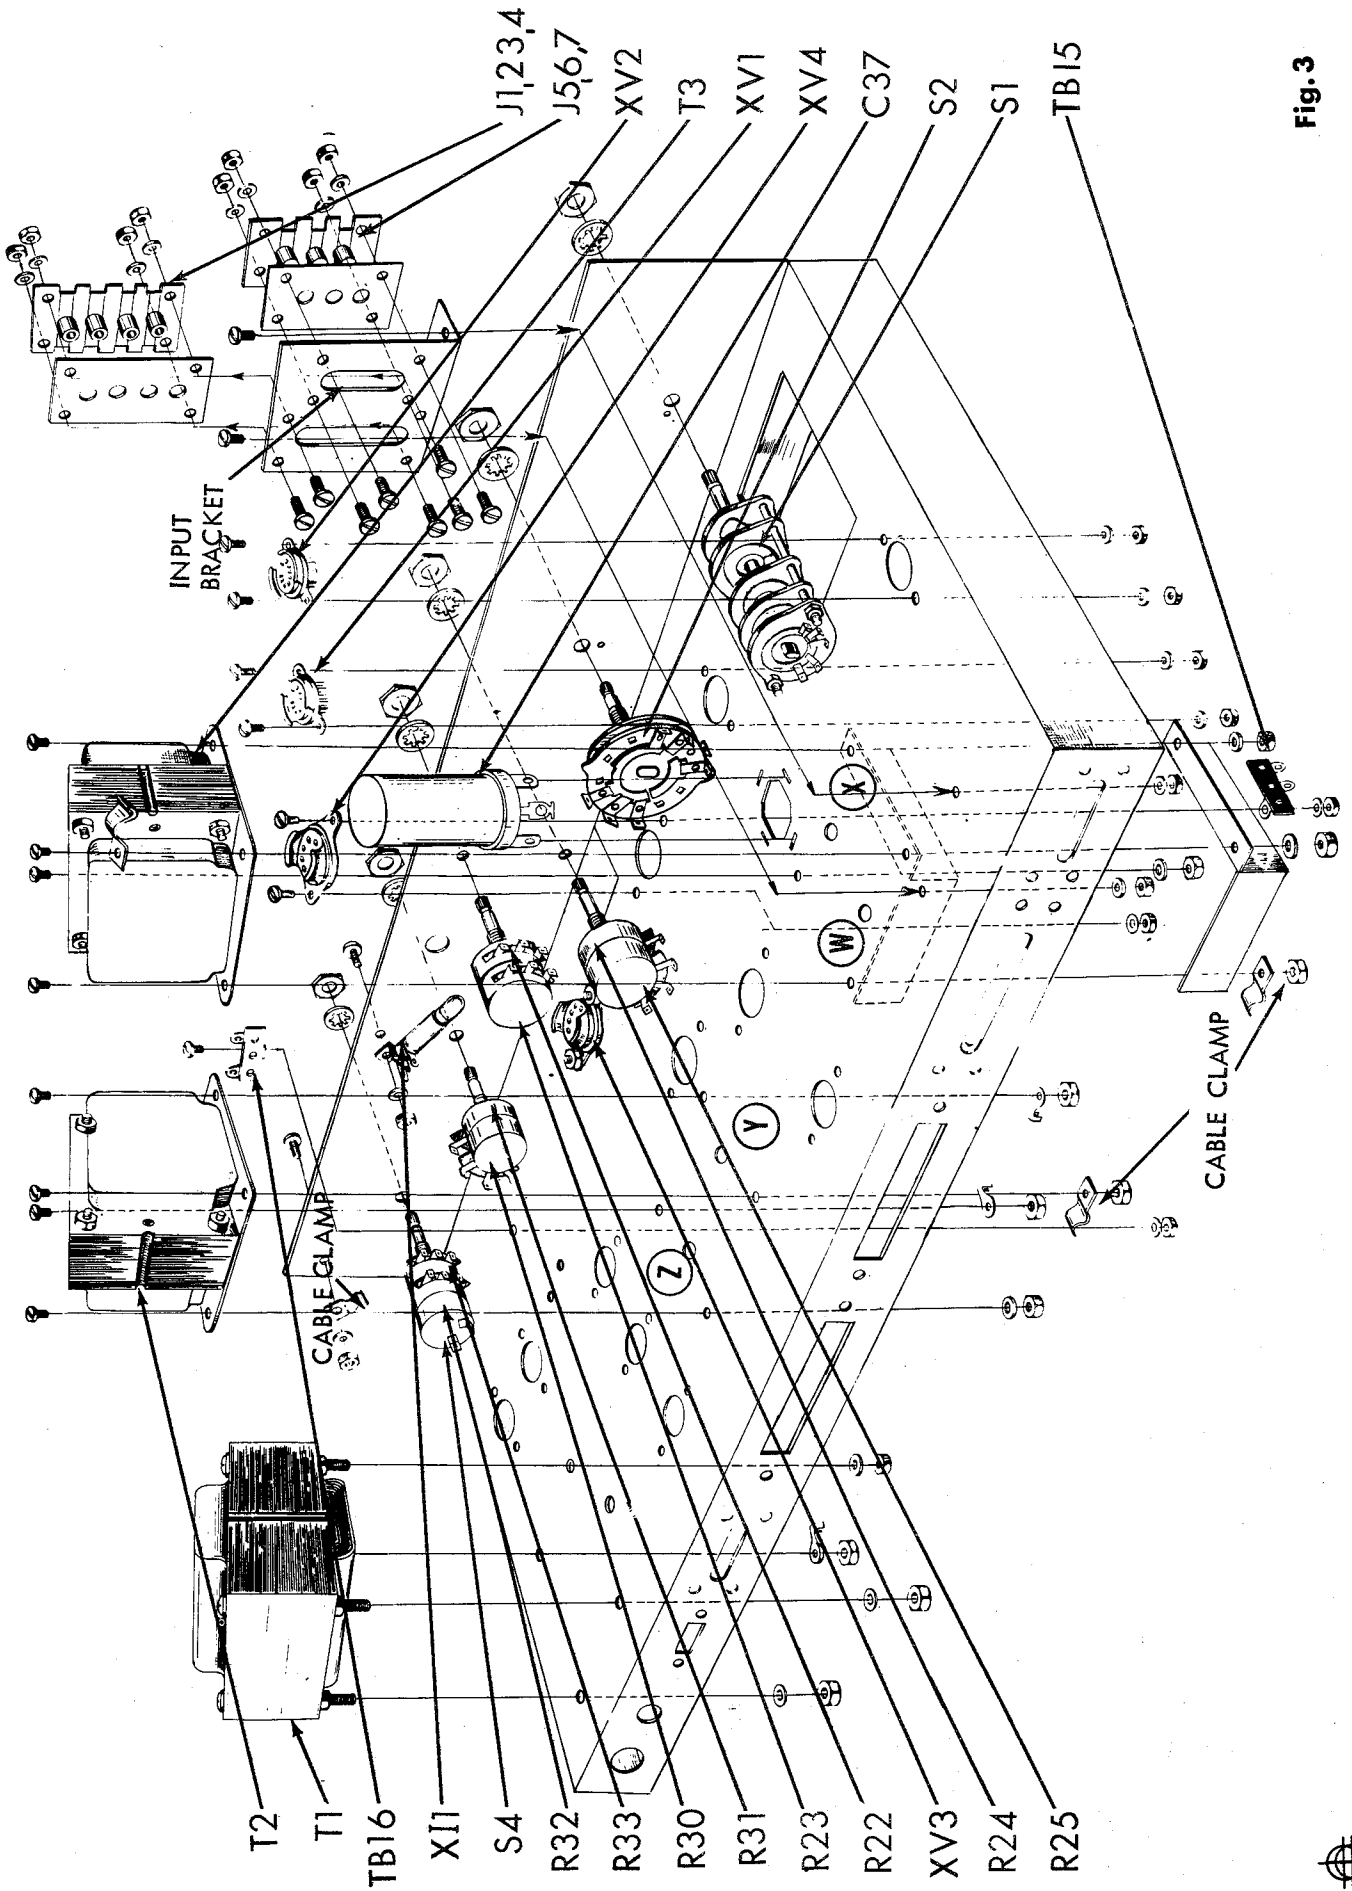
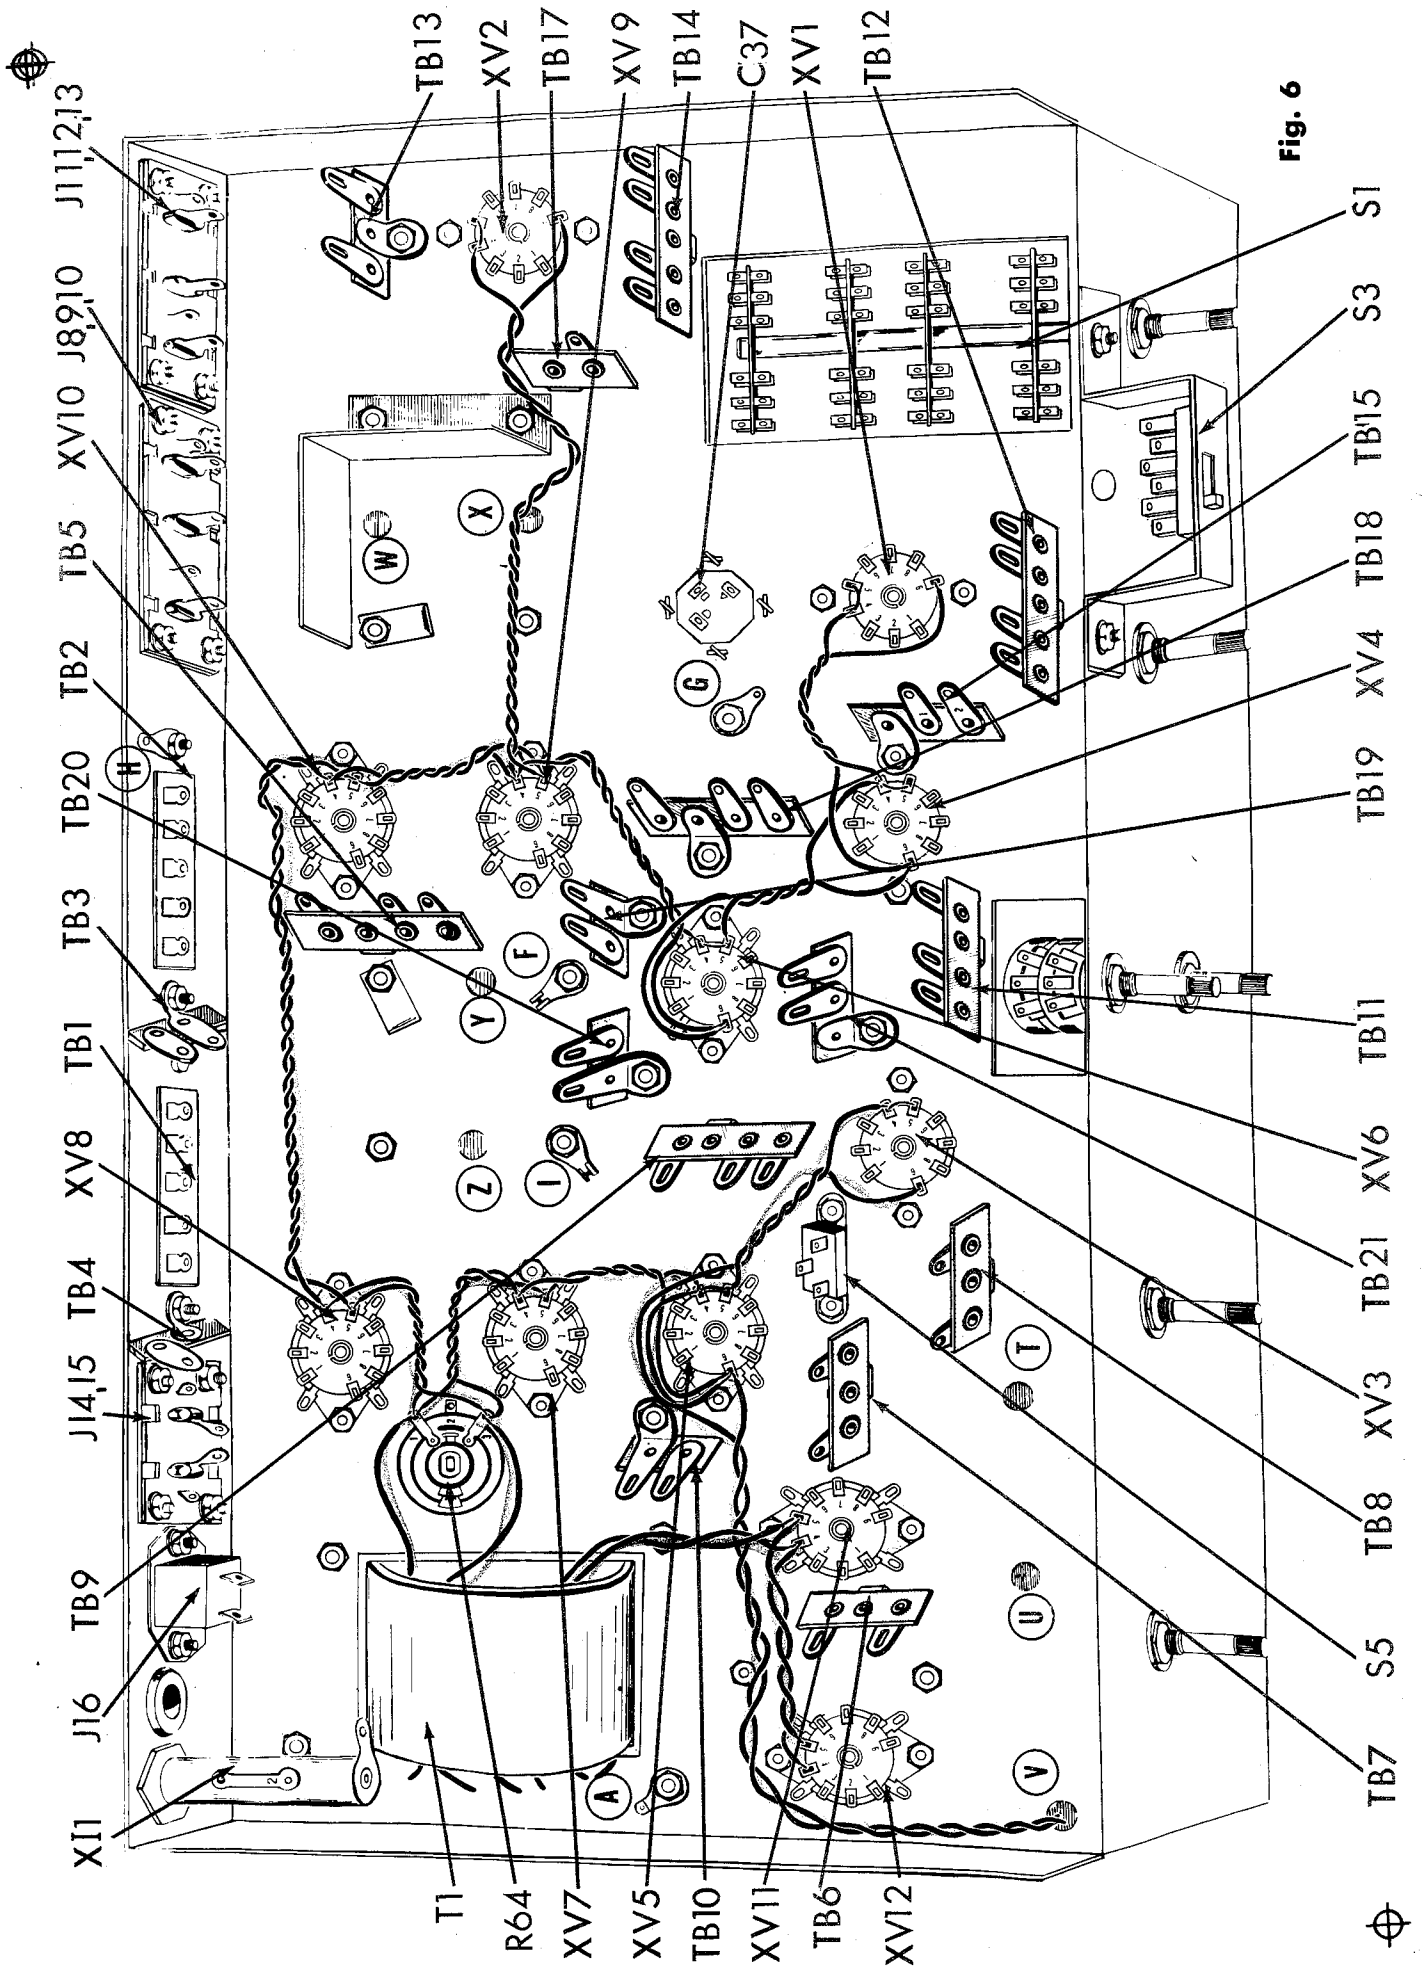

Fig. 3
Fig. 6
1. (✓) Fig. 3. Mount the 9 pin miniature tube socket with shield support, XV2, from the top of the chassis. Use two #4-40 screws, two #4 lockwashers, and two #4-40 hex nuts. Note mounting direction in figure 6.
2. ( ) Fig. 3. Similar to the above, mount the 9 pin miniature tube socket with shield support, XV1 and XV3, from the top of the chassis. Use two #4-40 screws, two #4 lockwashers and two #4-40 hex nuts on each. Note mounting direction figure 6.
3. ( ) Fig. 3. Similar to the above, mount the 9 pin miniature tube socket with shield support, XV4, from the top of the chassis. Use two #4-40 screws, two #4 lockwashers and two #4-40 hex nuts. Note mounting direction in figure 6.
4. (✓) Fig. 3. Mount the dual concentric treble control potentiometer with on-off switch, R32, R33, S4, as shown. Slide the locating lug on the potentiometer into the small hole adjacent to the mounting hole. Use one 3/8 lockwasher and one 3/8 hex nut (stock # 18047).
5. (✓) Fig. 3. Mount the dual concentric bass control potentiometer, R30, R31, as shown. Slide the locating lug on the potentiometer into the small hole adjacent to the mounting hole. Use one 3/8 lockwasher and one 3/8 hex nut (stock # 18048).
6. (✓) Fig. 3. Mount the dual 250KΩ level control potentiometer, R24, R25, as shown. Slide the locating lug on the potentiometer into the small hole adjacent to the mounting hole. Use one 3/8 lockwasher and one 3/8 hex nut (stock # 18046).
7. (✓) Fig. 3. Mount the dual 750KΩ focus control potentiometer, R22, R23 into the small hole adjacent to the mounting hole. Use one 3/8 lockwasher and one 3/8 hex nut (stock # 18045).
8. (✓) Fig. 3. Mount the function selector switch, S2, as shown. Slide the locating lug on the switch into the small hole adjacent to the mounting hole. Use one 3/8 lockwasher and one 3/8 hex nut.
9. ( ) Fig. 3. Mount the input selector switch, S1, as shown. Slide the locating lug on the switch into the small hole adjacent to the mounting hole. Use one 3/8 lockwasher and one 3/8 hex nut.
10. (✓) Fig. 3. Mount the two post terminal strip, TB16, as shown. Use one #6-32 screw, one #6 lockwasher and one #6-32 hex nut.
11. (✓) Fig. 3. On the power transformer, T1, cut both green leads, the red-yellow lead and the white lead to 2 1/2"; both yellow leads to 3 1/2"; both red leads and both black leads to 5 1/2". Mount the power transformer as shown. Position so that the green and yellow leads face the center of the chassis (see figure 6). Use three #8 lockwashers and three #8-32 hex nuts on three of the screws. On the fourth screw, use one #8 grounding lug and one #8-32 hex nut.
12. (✓) Fig. 3. On the output transformer, T2, cut the black, brown, green, orange and yellow lead to 4". Cut the blue, red and brown-yellow lead to 3". Mount the output transformer as shown. Push the red, blue and brown-yellow leads through hole "Z" nearest the power transformer mounted in step 11. Push the other leads through the hole "Y". Use four #8-32 screws, one #8 lockwasher, two #8 ground lugs, and one cable clamp. Secure each with a #8-32 hex nut. Slide all leads from hole "Y" under the cable clamp before tightening. See Fig. 8.
13. (✓) Fig. 3. On output transformer, T3, cut the orange, yellow, red and green leads to 6". Cut the brown lead to 5". Cut the blue and brown-yellow leads to 4". Push the red, blue and brown-yellow leads through hole "X". Push the other leads through hole "W". Use four #8-32 screws, three #8 lockwashers and four #8-32 hex nuts. Under two of the lockwashers, mount the shield. Under the nut without the lockwasher, mount the cable clamp. On the top of the chassis, mount a cable clamp under one of the screw heads. Do not tighten this screw yet. Run all leads from hole "W" under the cable clamp under the chassis in the direction shown in figure 8. Tighten all nuts except the one holding the clamp on the top side of the chassis.
14. (✓) Fig. 3. Mount the electrolytic can capacitor, C37, as shown. In figure 6, note the direction of the half moon, square and triangle near lugs to determine direction of mounting. Insert the mounting tabs into the slots in the chassis and twist the tabs somewhat less than a quarter turn. DO NOT twist the tabs excessively or they will shear off. Solder the tab without a hole to the chassis at its slot.
15. (✓) Fig. 3. Insert the pilot light, I1, into the pilot light assembly, XII. Screw the assembly to the chassis as shown using one #6-32 screw, one #6 lockwasher and one #6-32 hex nut. Tighten the mounting screw and nut after the pilot light has been lined up with the hole in the front chassis apron.
16. (✓) Fig. 3. Mount the input bracket as shown. Use two #6-32 screws, two #6 lockwashers and two #6-32 hex nuts. Follow arrows to mounting holes.
17. ( ) Fig. 3. Mount the four terminal input strip, J1, 2, 3, 4, as shown. Use four #6-32 screws, four #6 lockwashers and four #6-32 hex nuts. Use a four hole insulator between the input strip and the input bracket.
18. ( ) Fig. 3. Mount the three terminal input strip, J5, 6, 7, as shown. Use four #6-32 screws, four #6 lockwasher and four #6-32 hex nuts. Use a three hole insulator between the input strip and the input bracket.
19. (✓) Fig. 3. Mount the cable clamp on the upper left hand corner of the front apron, as shown. Use one #8-32 screw, one #8 lockwasher and one #8-32 hex nut.
1. (✓) Fig. 6. From the power transformer, T1, connect one green lead to R64-1 (C) and the other green lead to R64-3 (C).
2. (✓) Fig. 6. Fold the pot grounding lug over terminal #2 on R64. Solder this lug to this terminal R64-2 (S1).
3. (✓) Fig. 6. Connect one end of a 4" piece of yellow wire to R64-3 (C) and one end of a 4" piece of brown wire to R64-1 (C). Twist the wires together. Connect the other end of the yellow wire to XV7-4 (C) and the other end of the brown wire to XV7-5 (C).
4. (✓) Fig. 6. Connect one end of a 5" piece of yellow wire to R64-3 (S3) and one end of a 5" piece of brown wire to R64-1 (S3). Twist the wires together. Connect the other end of the yellow wire to XV8-4 (C) and the other end of the brown wire to XV8-5 (C).
5. (✓) Fig. 6. Connect one end of a 4 1/2" piece of brown wire to XV7-5 (S2) and one end of a 3" piece of yellow wire to XV7-4 (S2). Twist the leads together. Connect the other end of the yellow wire to XV5-4 (C) and the other end of the brown wire (running along the chassis as shown) to XV5-9 (C).
6. (✓) Fig. 6. Run the twisted pair of brown and yellow wires from hole "V" along the chassis as shown. Connect the brown lead to XV5-9 (C) and the yellow lead to XV5-4 (C).
7. (✓) Fig. 6. Connect a 1/2" piece of bare wire from XV5-4 (S3) to XV5-5 (C).
8. (✓) Fig. 6. Connect one end of a 4" piece of yellow wire to XV5-5 (S2) and one end of a 5 1/2" piece of brown wire to XV5-9 (S3). Twist the two wires and run along the chassis as shown. Connect the other end of the yellow wire to XV3-4 (C) and the other end of the brown wire to XV3-9 (S1).
9. (✓) Fig. 6. Connect a 1/2" piece of bare wire from XV3-4 (S2) to XV3-5 (S1).
10. (✓) Fig. 6. Connect one end of a 6" piece of brown wire to XV8-5 (S2) and one end of a 6" piece of yellow wire to XV8-4 (S2). Twist the wires and run along the chassis as shown. Connect the other end of the brown wire to XV10-5 (C) and the other end of the yellow wire to XV10-4 (C).
11. (✓) Fig. 6. Connect one end of a 5" piece of yellow wire to XV10-4 (S2)